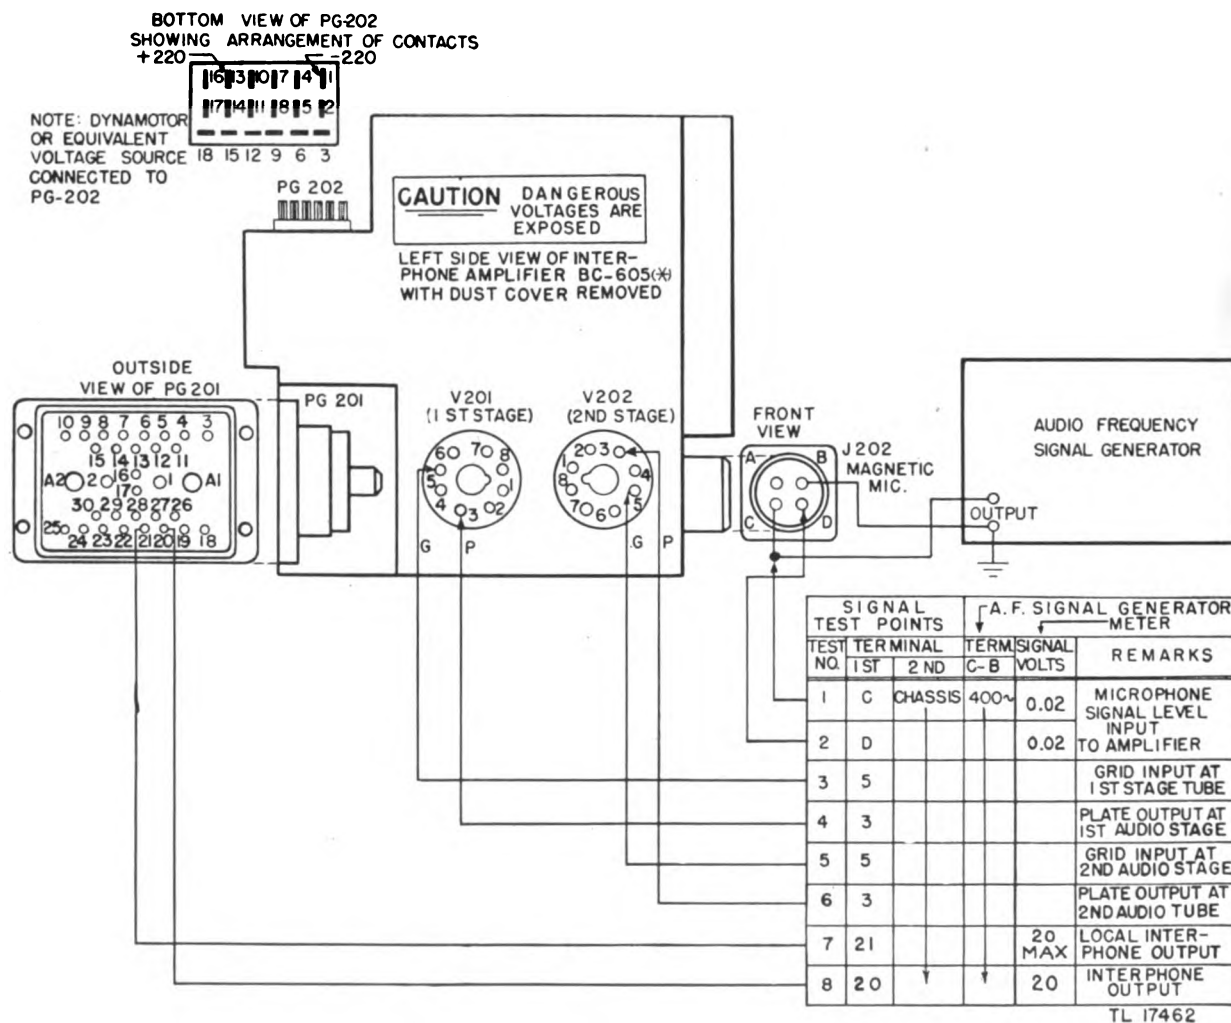

Figure 17. Interphone Amplifier BC-605 (*), signal tracing chart.
a. SIGNAL TRACING. Faulty stages in the amplifier may be found by means of the following methods of signal tracing and signal substitution. See figure 17. Connect a 100-ohm, 2-watt resistor across the output terminal of the a-f signal generator. Connect a 2,000-ohm, 5-watt resistor between the chassis and the terminal of the VOLUME control (P201) which is connected to the interphone
output pin 20 of plug PG201. To locate this terminal of P201, connect an ohmmeter between pin 20 of PG201 and each terminal of P201 in succession; use the terminal that gives an ohm reading of zero. Connect the output of the a-f signal generator (table I) to the amplifier (fig. 17) using test cord A (table I). Insert the test cord plug into the magnetic microphone jack (J202). Receptacle B of the magnetic microphone jack is now connected to the grounded output terminal of the signal gen-
(2) *Faulty stage location.* (a) *Use of test prod or probe.* Place the test prod or probe of the voltmeter or oscilloscope on each terminal listed in the table of figure 17 in succession and see that the prescribed readings are obtained. If any of the readings differ by more than ± 20 -percent from those specified in the table of figure 17, the fault lies in the stage indicated by the following chart: